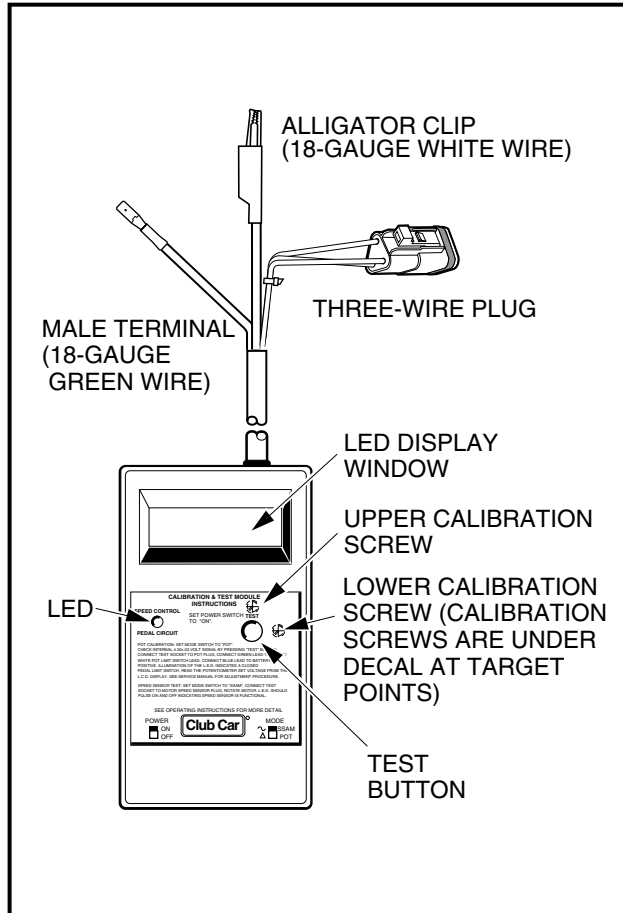
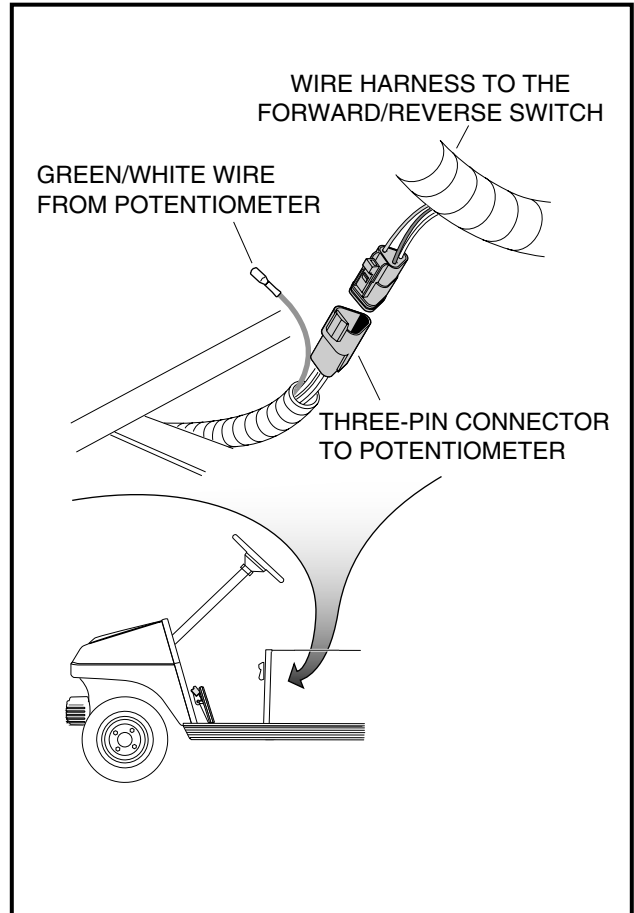

Figure 5-22 Calibration Test Module
Figure 5-23 Three Wire Connector to Potentiometer
- 5.1. Connect Calibration Test Module (CTM) (CCI P/N 101887101) **(Figure 5-22, Page 5-25)** to vehicle.
- 5.1.1. Disconnect three-pin connector to potentiometer from wire harness as shown **(Figure 5-23, Page 5-25)**.
- 5.1.2. Connect the three-pin plug of the CTM to the three-pin connector from the potentiometer **(Figure 5-22, Page 5-25 and Figure 5-23, Page 5-25)**. **See following NOTE.**
- 5.2. Disconnect the green/white wire from the potentiometer housing assembly **(Figure 5-23, Page 5-25)** at the Forward and Reverse limit switch no. 1.
- 5.3. Connect the green/white wire from the potentiometer housing to the green lead from the CTM **(Figure 5-23, Page 5-25)**.